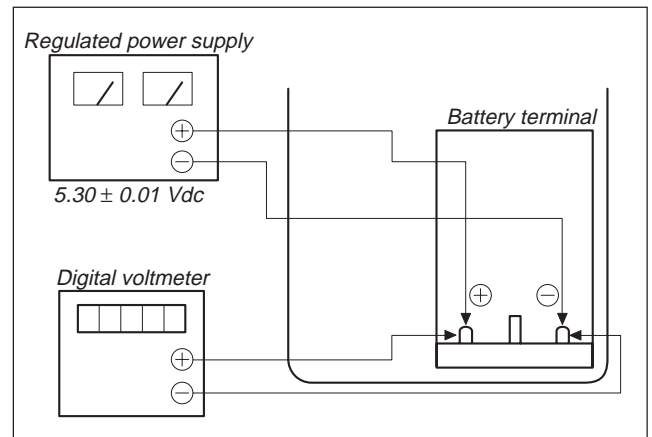

Fig. 5-3-3
- 1) Connect the regulated power supply and the digital voltmeter to the battery terminal as shown in Fig. 5-3-3.